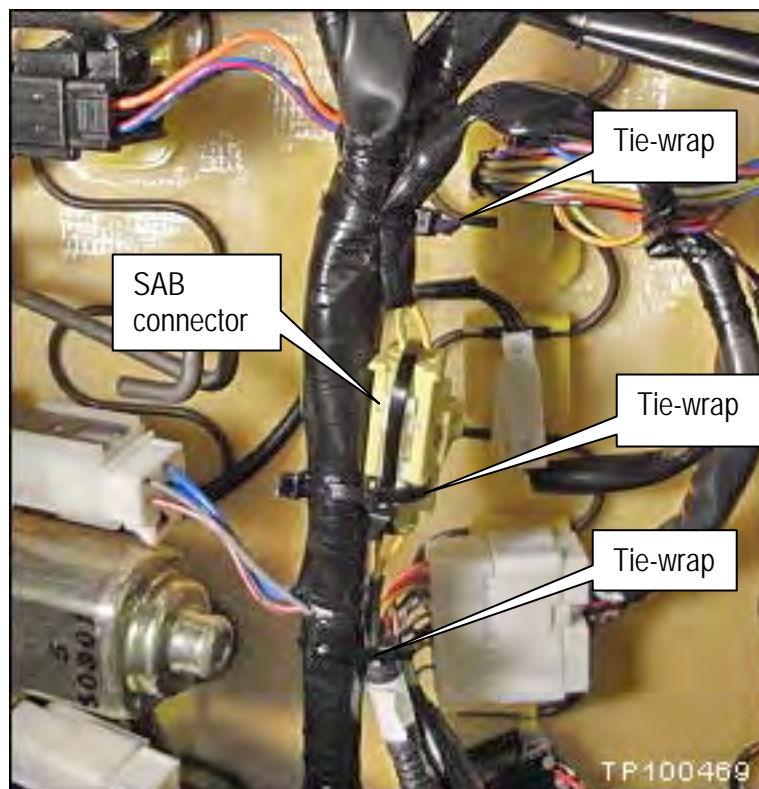

Figure 2b
3. Cut and remove the 3 tie-wraps shown in Figure 2b.